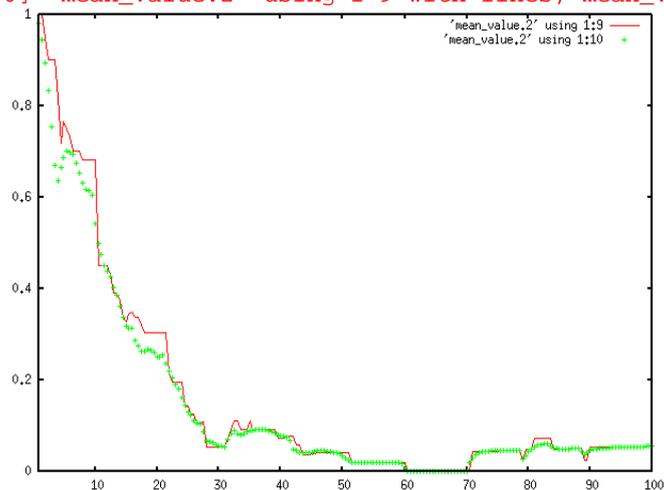

Fig. 6. Fraction of trajectories (solid line) and average adiabatic population (dots) in the second excited state as a function of time.
42. Plot the fraction of trajectories (occupation) and the average adiabatic population for the second excited state as a function of time (Fig. 6).
Fig. 6 shows an exponential decay of the population with time constant (lifetime) of about 20 fs.